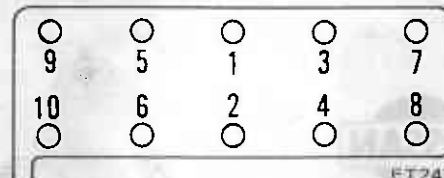

Fig. ET-1 Cylinder head bolt tightening sequence
- When engine is cold, tightening should be accomplished in two or three steps, in the sequence shown in Figure ET-1, starting from center and working out toward ends.